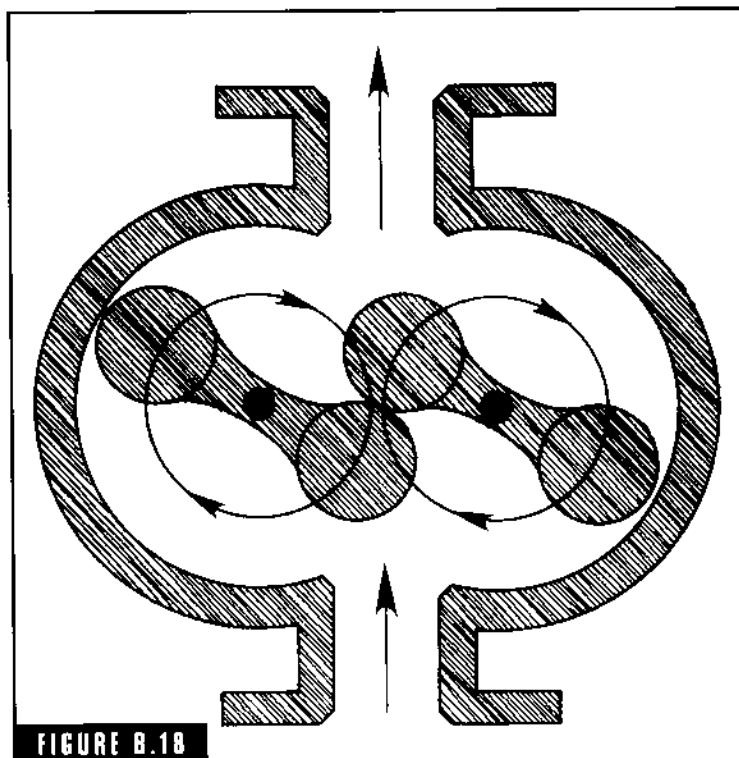

FIGURE B.18
**blowers** Blowers come in all sizes and shapes (Figs. B-18 and B-19). They are rated in cubic feet per minute at various delivery pressures. The most common type of blower is the *centrifugal fan* type—a cast or fabricated case which turns a paddle type of impellor. The design of these blowers varies considerably from manufacturer to manufacturer and also with the intended use for a particular blower. Blowers are often called *fans* in the foundry. In some blowers the impellor itself is *shrouded* on both sides with the idea that this increases its efficiency, both in pressure and volume. This question is up for grabs.